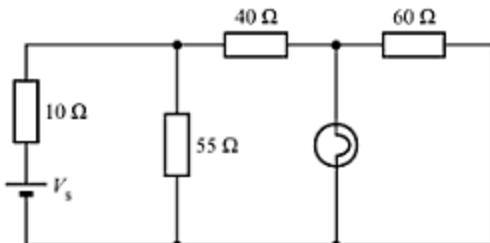

Fig. A-109
- A-76. The light bulb shown in the circuit of Fig. A-109 has a rating of 120-V, 60-W. What must be the supply voltage  $V_s$  for the light bulb to operate at rated values.